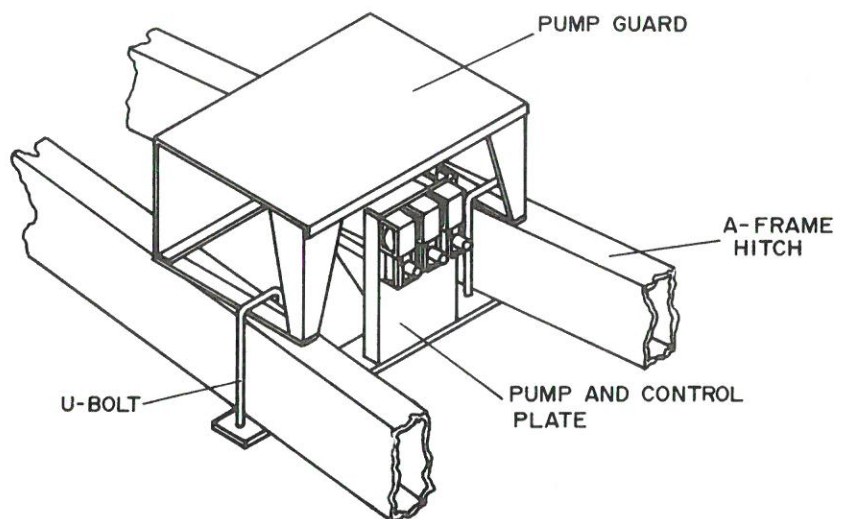

Fig. 3
STEP 2: MOUNT PUMP AND PUMP GUARD UNDER A-FRAME AND PLACE PUMP GUARD ON TOP OF FRAME. WITH $\frac{1}{2}$ " x 3" x 7" U-BOLTS, BOLT PARTS AS SHOWN IN FIG. 3. **NOTE:** ON 20 FT. A-FRAME PUMP MUST BE UNBOLTED SO HYDRAULIC LINES CAN BE SLIPPED BETWEEN PUMP AND CONTROL PLATE. REBOLT PUMP. DO NOT TIGHTEN U-BOLTS.